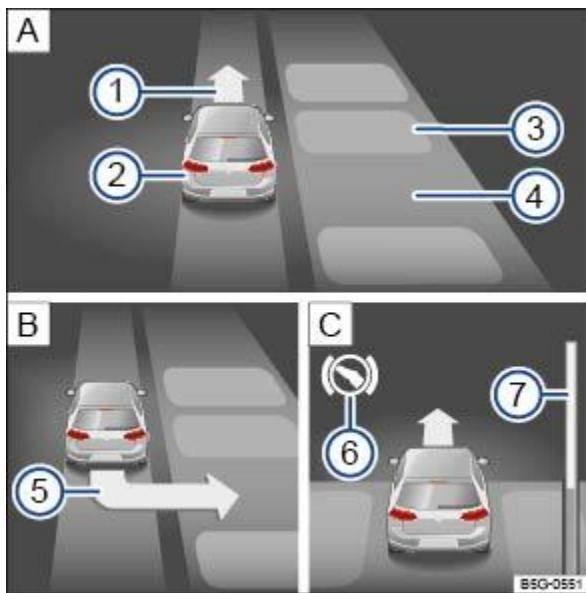

Fig. 131 On the instrument cluster display: parking perpendicular to the road.
Drive into the parking space when a corresponding prompt ⇒ Fig. 131(5) is shown on the instrument cluster display ⇒ Driving into a parking space .
Key to ⇒ Fig. 131 :
Brake when an acoustic signal sounds to indicate that you should change direction, an arrow ⇒ Fig. 131 ① **A** lights up, the display **(S)** lights up or a message is shown.